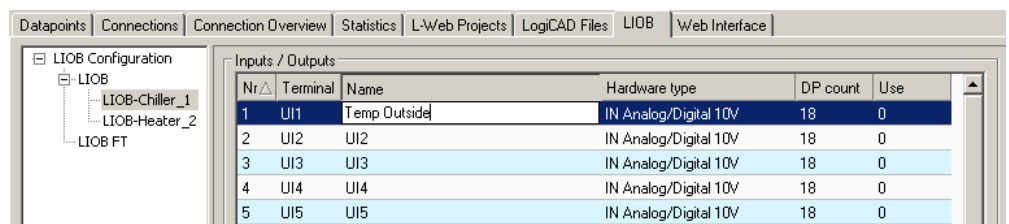

Figure 17: Change L-IOB terminal names for your installation.
- Select a L-IOB device in the tree on the left-hand side and enter names for the terminals by double-clicking into the **Name** column as shown in Figure 17.